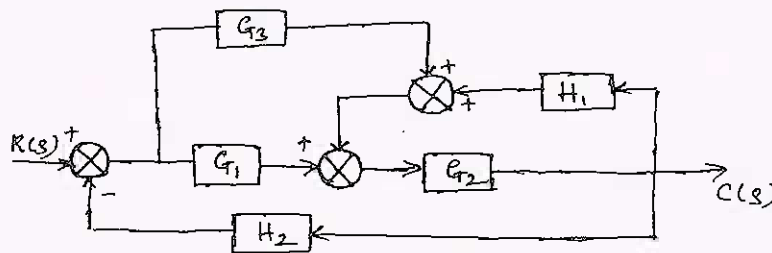

Fig. Q4(a)
- 4 a. Obtain the overall transfer function of the block diagram shown in Fig.Q4(a) by reduction technique. (10 Marks)